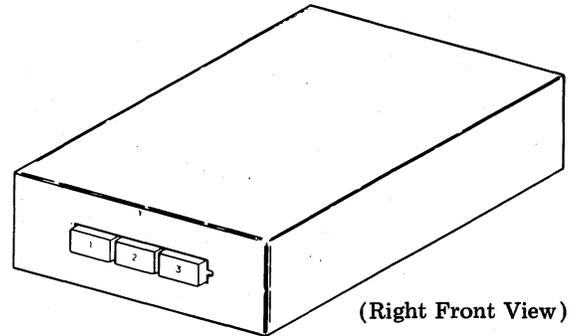

Fig. 1—EIA Data Terminal Switch Assembly
1.03 References to left, right, front, and rear are viewed from the operators position facing the pushbuttons (Fig. 1). Standard tools required for installation and routine service are listed in Section 570-005-800. Technical data may be found in Section 582-001-100.